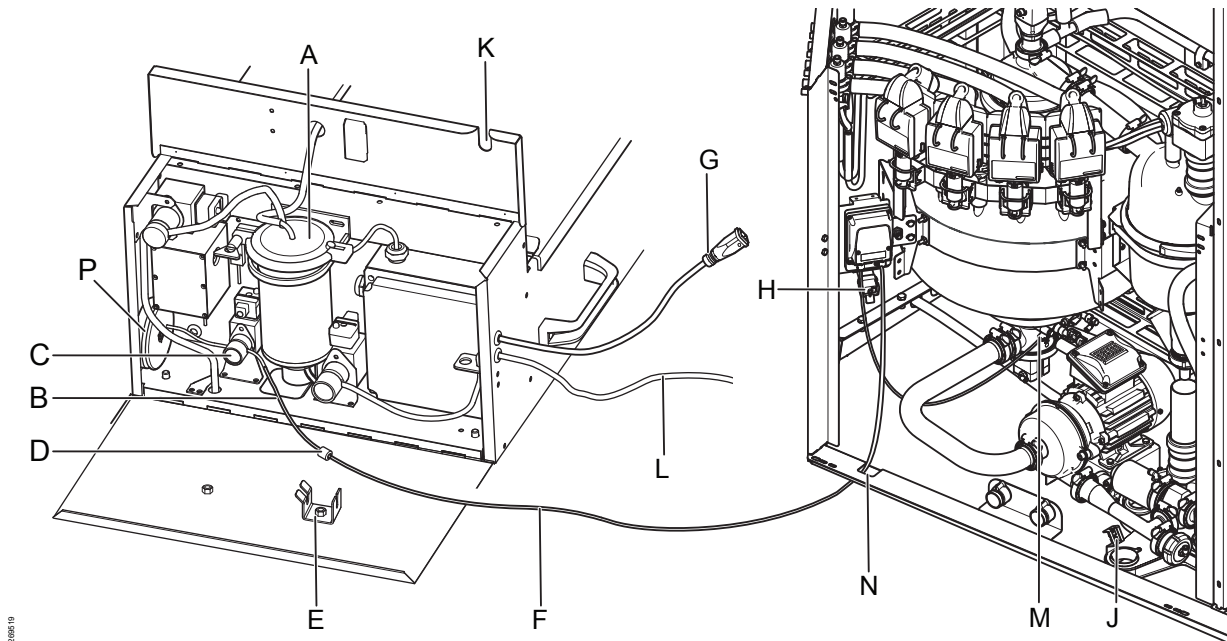

Fig. 1: Connecting the milk sampler VMS to a VMS V300 milking station. (Not to scale.)
If the cable (G in Fig. 1) to the milk sampler is disconnected and reconnected again, milk sampling continues with the next sampling vial position.
5. Open the front door of the milk sampler VMS and disconnect the sample tube (F in Fig. 1) from the milk sampler.
6. Put the sample tube back to the drain position (J).
7. Disconnect the cable (G).